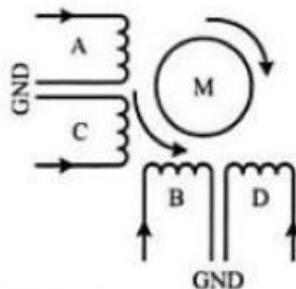

Fig. 2.18 2-Phase unipolar step-motor
**1. Unipolar** A unipolar stepper motor contains two windings per phase. The direction of rotation (clockwise or anticlockwise) of a stepper motor is controlled by changing the direction of current flow. Current in one direction flows through one coil and in the opposite direction flows through the other coil. It is easy to shift the direction of rotation by just switching the terminals to which the coils are connected. Figure 2.18 illustrates the working of a two-phase unipolar stepper motor.